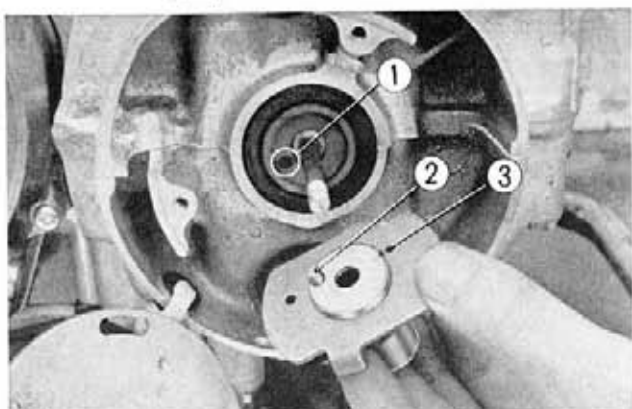

Fig. 7-23 ① Pin hole
1. Install the spark advancer to make sure that the pin is inserted into the pin hole at the end of the crankshaft. (Fig. 7-23)